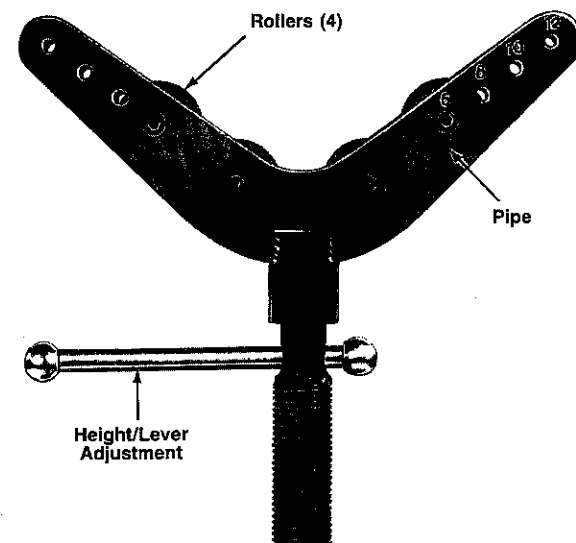

Figure 21. Adjusting No. 965 Pipe Support Stand
1. Place Rollers of No. 965 Pipe Support Stand in hole locations corresponding to pipe size to be roll grooved (Figure 21).